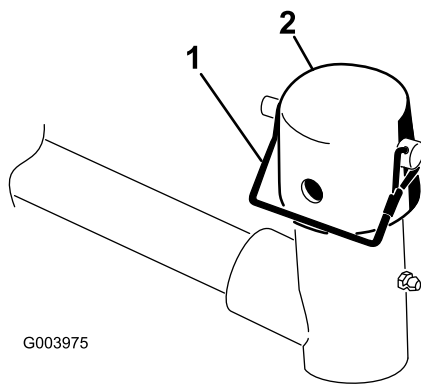

Figure 6
7. Remove the snapper pin and the cap from the lift arm pivot yoke (Figure 6).
11. Secure the cap and the carrier frame shaft to the lift arm yoke with the snapper pin. Use the slot if a steering cutting unit is desired or use the hole if the cutting unit is to be locked in position (Figure 6).